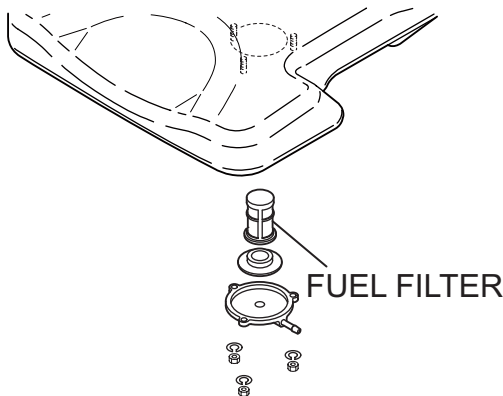

Figure 12. Fuel Filter
- Remove the fuel filter cap and clean the inside of the fuel tank (Figure 12).